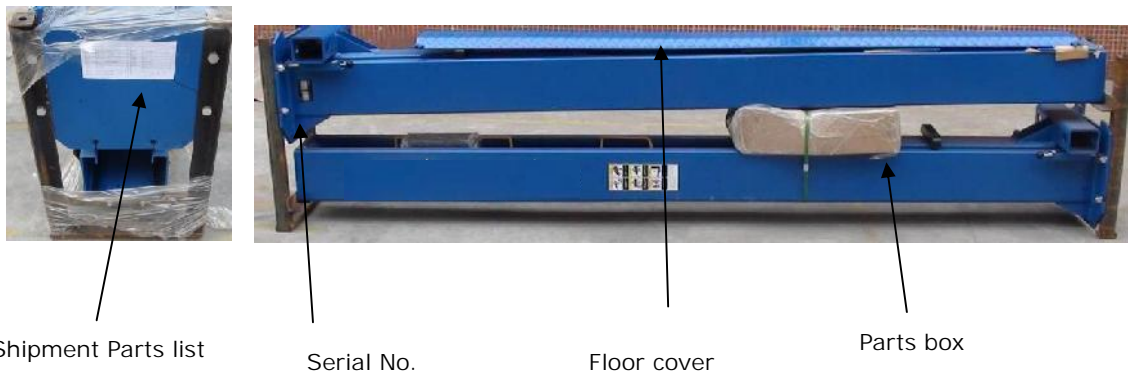

Fig.6
2. Move the lift aside with fork lift or hoist, and open the outer packing carefully. (See Fig. 6).